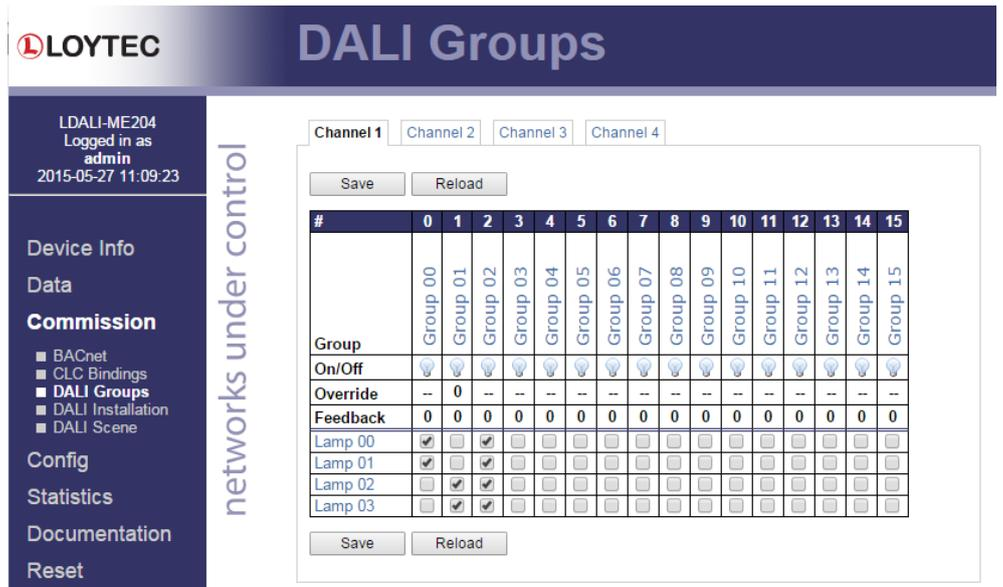

Figure 37: DALI Installation Web Interface: Group Configuration.
- Add the two lamps near the window to group 0, the two lamps near the corridor to group 1 and all lamps to group 2 by checking the corresponding check boxes. Press the **Save** button. The result will look like in Figure 37.